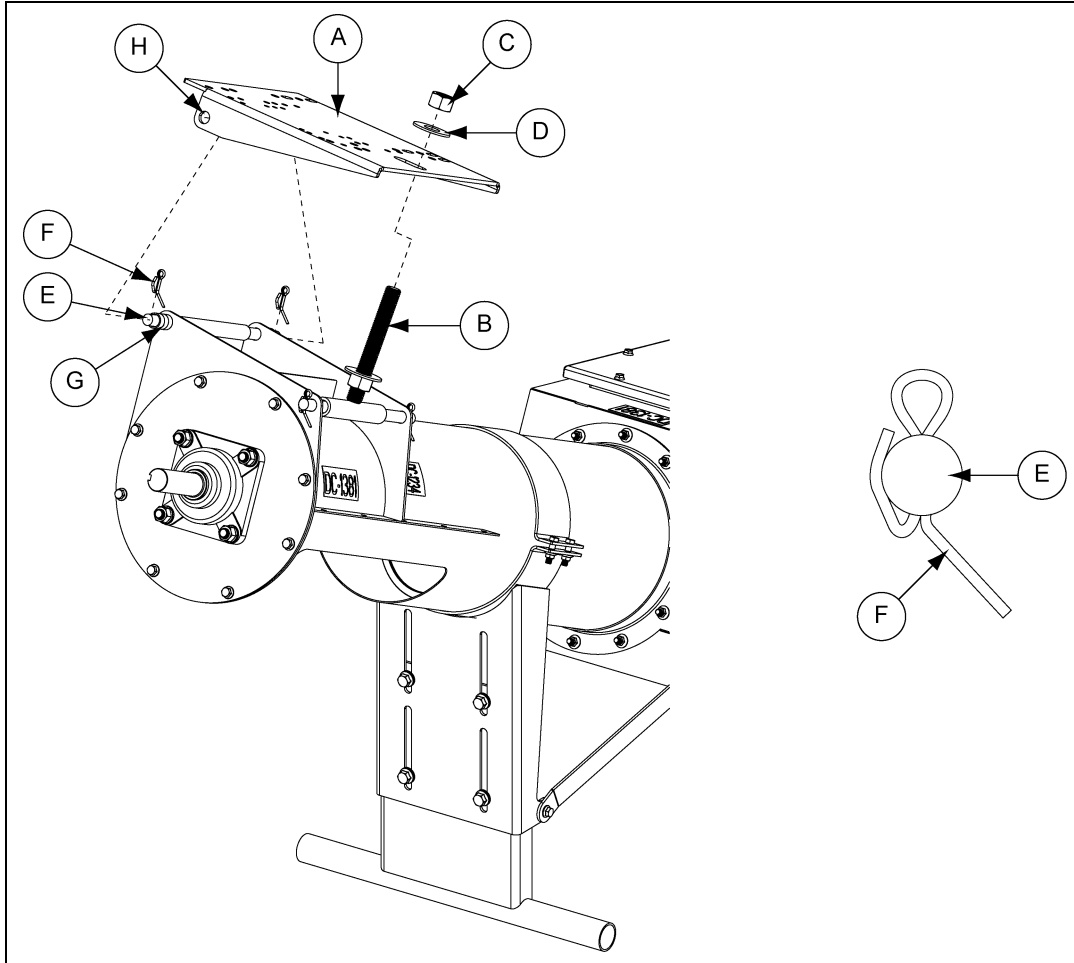

Figure 4E
1. Secure one of the motor mount adjustment nuts (C) and one of the motor mount adjustment washers (D) approximately 3/4" of the way down the motor mount adjustment rod threaded shaft.
2. Once the nut (C) and washer (D) are secure, slip the motor mount plate (A) over the adjustment rod (B) and align the pivot holes (H) with the pivot tube. (See Figure 4E.)